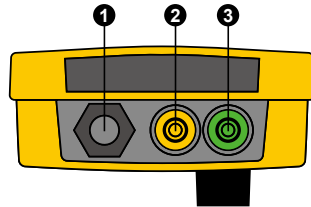

Figure 3. Top of the Product
2. Connect meter set to Duty Cycle to the Control Pilot (CP) terminals located on the top of the adapter. See Figure 3, use items ② and ③. Make sure to connect COM input of the meter to the Green (Ground) output of the CP terminal.